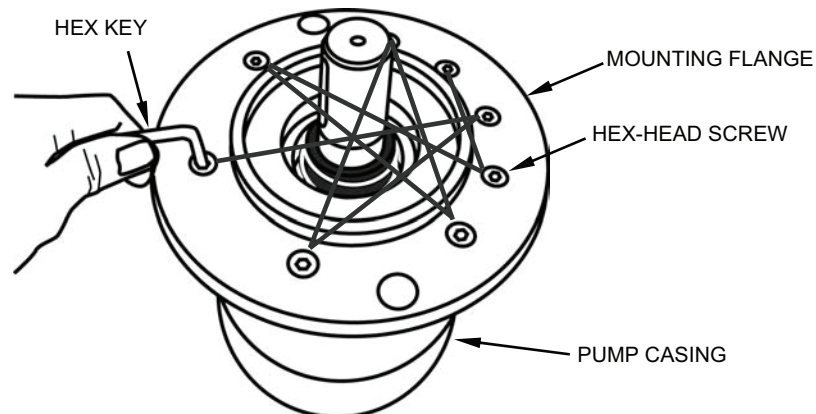

Figure 40. Securing Mounting Flange to Pump Casing.
- w. Using the hex key, secure the mounting flange to the pump casing with the eight hex-head screws (see **Figure 40**). Tighten in an alternating star pattern, checking under the flange frequently to ensure the O-ring seats properly and does not bulge out.